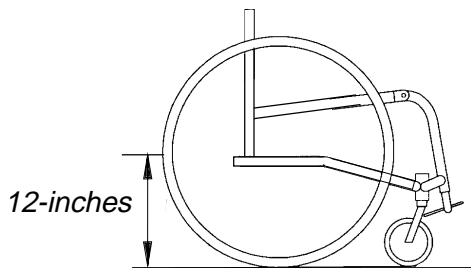

FIGURE 8 - DETERMINING TOE IN/TOE OUT - MEASURING CENTERLINES OF REAR WHEELS
Determining Toe In/Toe Out (FIGURES 8 AND 9)
- Measure the distance between the centerlines at the rear and front of the rear wheels at approximately 12-inches from the ground/floor (FIGURE 8).